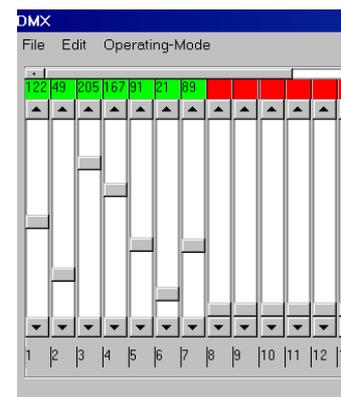

Fig.118: DMX-Editor: Used and unused channels.
**It is important to understand the colour code!** The red colour means that these channels have not been defined so far for the actually processed macro. All red marked channels will not change the value of the respective DMX channel on calling the macro. If a scrollbar is adjusted, the red box will change to green colour and the actually adjusted DMX value will be displayed. The activation or deactivation of channels via green or red flags, respectively, is a useful visualization to prevent unwanted actions of the macros. Let us presume that channel 6 and channel 7 refer to two lamps which can be dimmed and channel 8 and 9 refer to a RGB-colour-changer. Then this macro (which we see in Fig.118) will have no influence on the RGB-colour-changer, because its channels are still red. If an activation of the RGB-colour-changer is wanted, too, then the respective scrollbars have to be adjusted at least once. At least, the created macro can be saved via a click on the button “Save”. Remember: When the box above a channel is red, then it has totally NO influence!